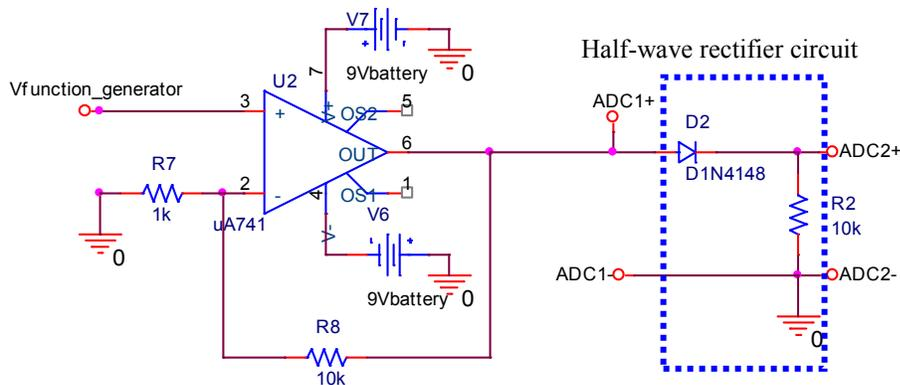

Figure B-1.
Half-wave rectifier: You will build a half-wave rectifier circuit. Build the circuit in Figure B-1. Be sure to **use a 10k Ω resistor for this circuit.** The op-amp circuit isn't changed. ADC1 or A1 senses the input signal to the half-wave rectifier circuit. ADC2 or A2 is connected to the output of the rectifier circuit. DC couple both oscilloscope channels.
- Return to the circuit in Figure B-1, redrawn below